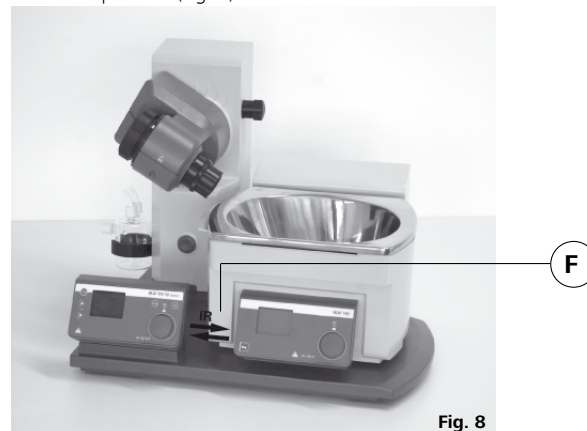

Fig. 8
- ☞ Place the heating bath on the stand of the rotation drive and push it into the left position (Fig. 8).